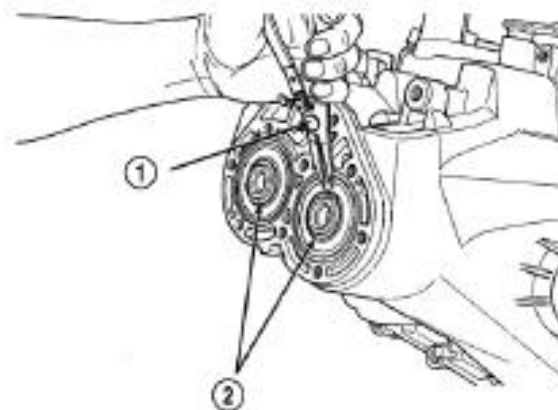

Figure 3-50 Fixing snap ring for bearing
(16) Take down the two 2 fixing snap rings for output shaft, input shaft and bearing (Figure 3-50).